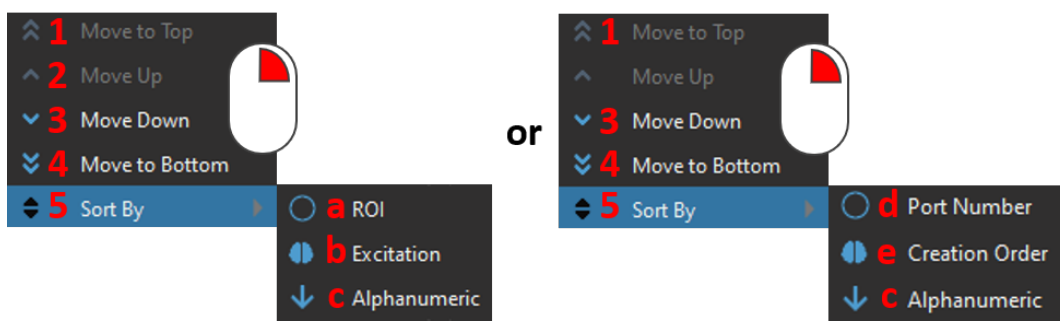

Figure 10.47: Graph View, Arrange graphs order
The order of individual graphs can be modified (within the channel types) by *right clicking* one of the graphs in the **Graph View**. This opens a small pop-up menu (Fig. 10.47), that includes the following options:
1. The **Move to Top** option (Fig. 10.47, 1) sets the selected graph as the first one of its channel type within **Graph View**.
2. The **Move Up** option (Fig. 10.47, 2) shifts the selected graph towards the top by one graph, but only within its channel type.
3. The **Move Down** option (Fig. 10.47, 3) shifts the selected graph towards the bottom by one graph, but only within its channel type.
4. The **Move to Bottom** option (Fig. 10.47, 4) sets the selected graph as the last one of its channel type within **Graph View**.
5. The **Sort By** option (Fig. 10.47, 5) rearranges the graph order based on:
- The **ROI ID** option (Fig. 10.47, a) such that the first created ROI will be on top and the last created will be on the bottom.
- The **Excitation** option (Fig. 10.47, b) such that all channel corresponding to the same excitation (for example Isosbestic, 470, 560) will be grouped together in their order of creation.
- The **Alphanumeric** option (Fig. 10.47, c) such that the **UserName** of each channel will be ordered alphanumerically.
- The **Port Number** option (Fig. 10.47, d), set a chronological order within each channel type (e.g AIN01, AIN02, AIN03, etc.).
- The **Creation Order** option (Fig. 10.47, e) such that the first created channel will be on top and the last created channel will be on the bottom.